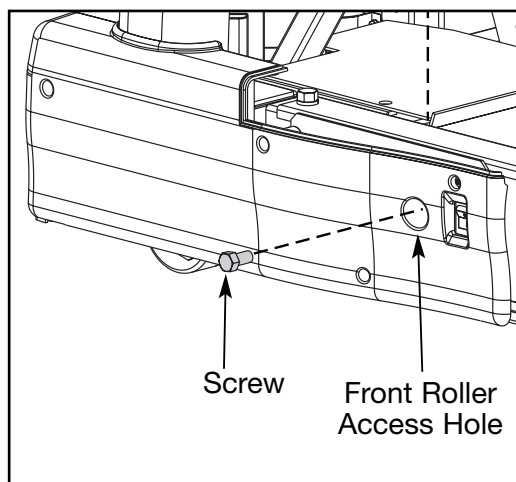

Figure 8
- A. Place a 9/16" socket wrench with a 3" extension in the right front roller access hole. Loosen but do not remove the right front roller screw. See Figure 8. **NOTE:** The right screw will stay on the front roller. You do not need to remove it for this procedure.
- B. Place a 9/16" socket wrench with a 3" extension in the left front roller access hole. Remove the left front roller screw. See Figure 8. **NOTE:** Leave the front roller in place until step 9B.